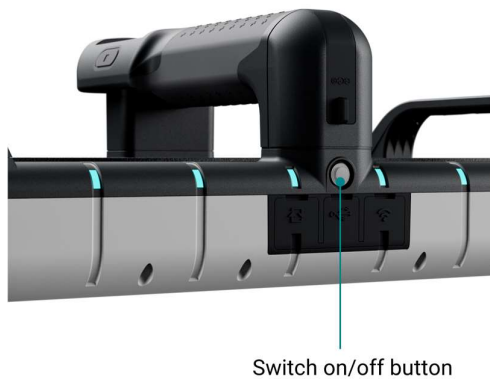

Figure 5: GP8000 & GP8100 Switch on/off button
- Turn on: long press 1 second the switch on/off button on the back (see Figure 5)
- Turn off: long press 1 second the switch on/off button on the back (see Figure 5)